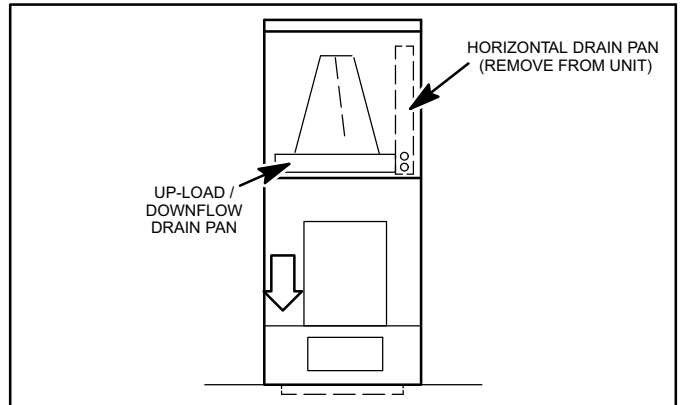

Figure 6. Downflow Discharge Position
2. For best efficiency and air flow, remove the horizontal drain pan from the units in downflow positions as illustrated in figure 6 on page 8.
3. Rotate cabinet 180° from the upright position. See figure 6. You may need to first remove the blower assembly to lighten the cabinet for lifting.